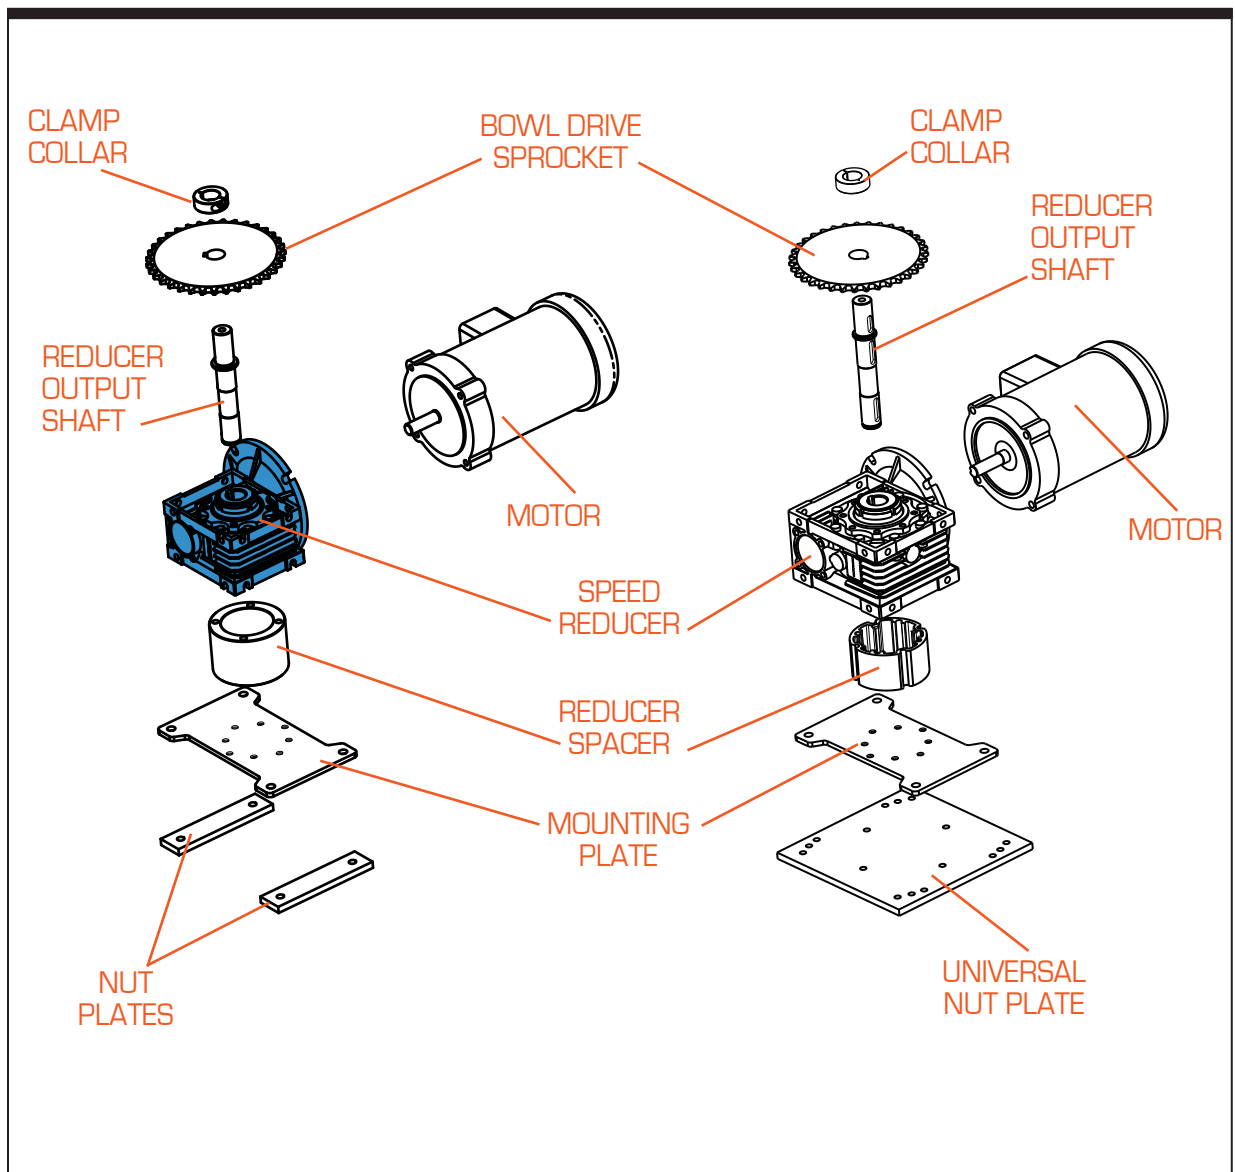

Figure 5-3. Typical FT40/50-RD Single Drive Assembly (Left) and FT-60-RD Single Drive Assembly (Right)
Step 5—Assemble Output Shaft. The output shaft on the speed reducer comes as a separate kit. If replacement is required, clean both contact surfaces before assembly and apply any appropriate anti-seize compound to avoid oxidation (rust) and possible seizing of parts. Slide the sprocket(s) down onto the reducer output shaft. You will need to adjust the height of the sprocket(s) to match the heights of the corresponding sprocket(s) on the spindle assembly (see Figure 5-3 on the following page regarding the order). Tighten setscrew. The speed reducer used in the feeder is lubricated for life with synthetic lubricant and requires no filling before use.